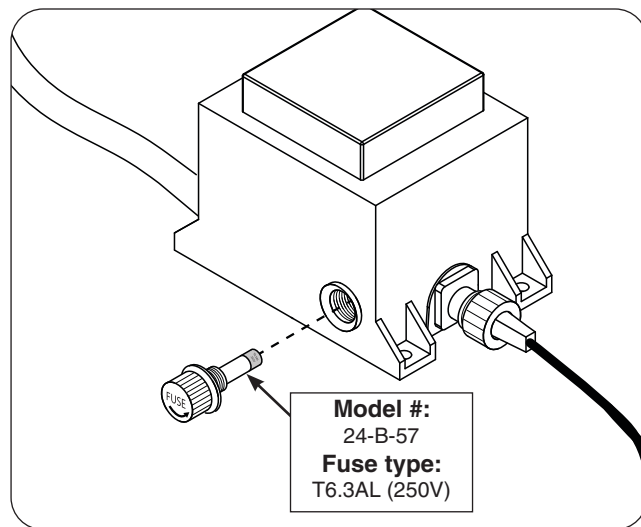

Fig. 32-1 Replace fuse
3. Locate the fuse holder on the power supply box (see Fig. 32-1).